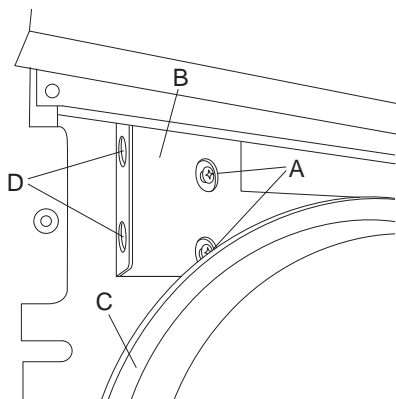

Fig. 25a
8.5.2 Loosen the two screws (A) on the bracket (B) of the expansion vessel (C) (see fig. 25a).